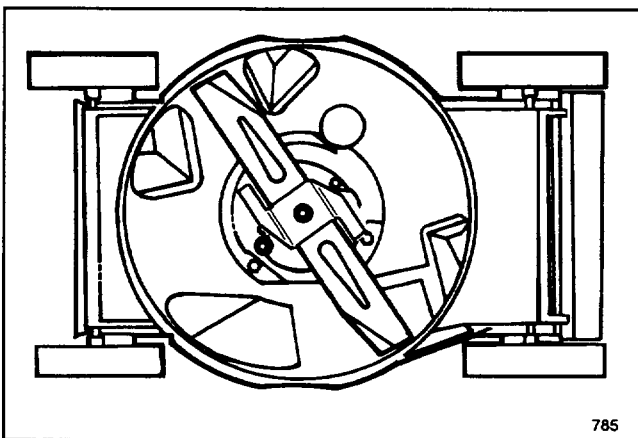

Figure 19
3. Tip mower on its right side (Fig. 19). Avoid rotating blade as starting problems may result.